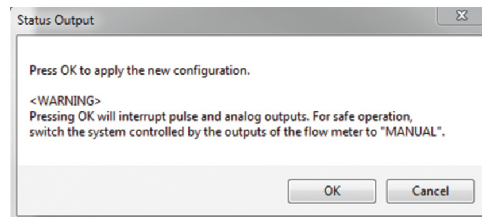

Figure 2.9—Status Output, Apply New Configuration warning
- Click **OK** on the Status Output dialog. A warning (Figure 2.9) will appear. After taking appropriate cautionary actions, click **OK** to apply the change.